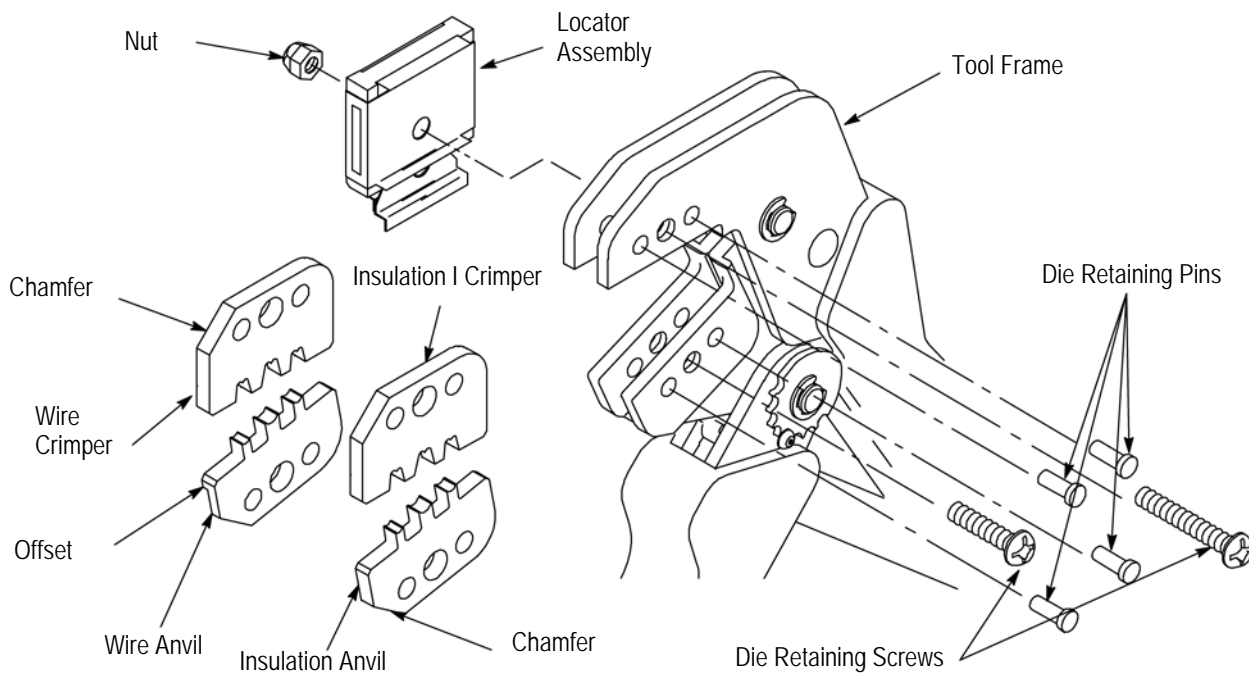

Figure 2
**2. DESCRIPTION** (Figure 1 and Figure 2)
**3. INSTALLATION AND REMOVAL OF DIE SET AND LOCATOR ASSEMBLY** (Figure 2)